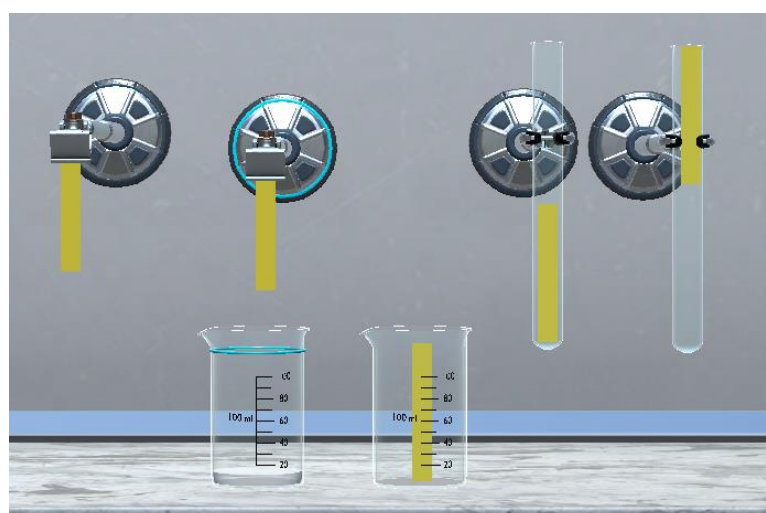

Figure 105 – Examples of placing indicator paper
To extract a strip of indicator paper (1) from the dispenser and move it, press and hold it with the left mouse button, drag it to the desired location, and release. Strips of indicator paper can be placed on a rack on the back panel of the workspace, in a chemical beaker, and in a test tube (Figure 105).
container will display rings of the same color (Figure 105). After reacting, place the paper on the dispenser panel (2 in Figure 104) and compare the color with the samples on the dispenser scale (3).